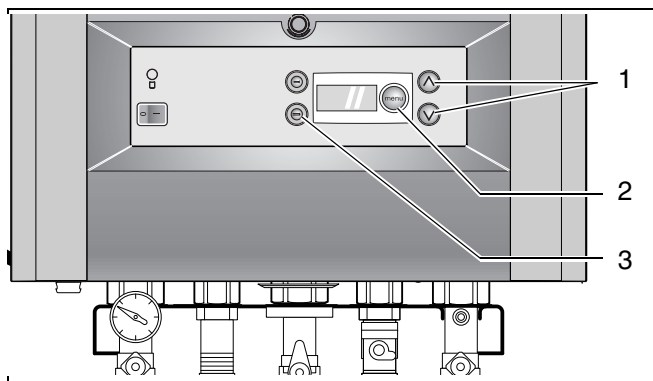

fig. 6 DBA – control panel
- Press  button (see fig. 6, item 2) twice then adjust the DHW temperature to the desired temperature (40 °C - 60 °C) using the  and  keys (see fig. 6, item 1). Factory setting is 48 °C.
- Press the  button (see fig. 6, item 2) three times. The current setting blinks.
- Press  button (see fig. 6, item 2) four times then adjust the flow temperature to the desired temperature (30 °C – 80 °C) using the  and  keys (see fig. 6, item 1). Factory setting is 80 °C.